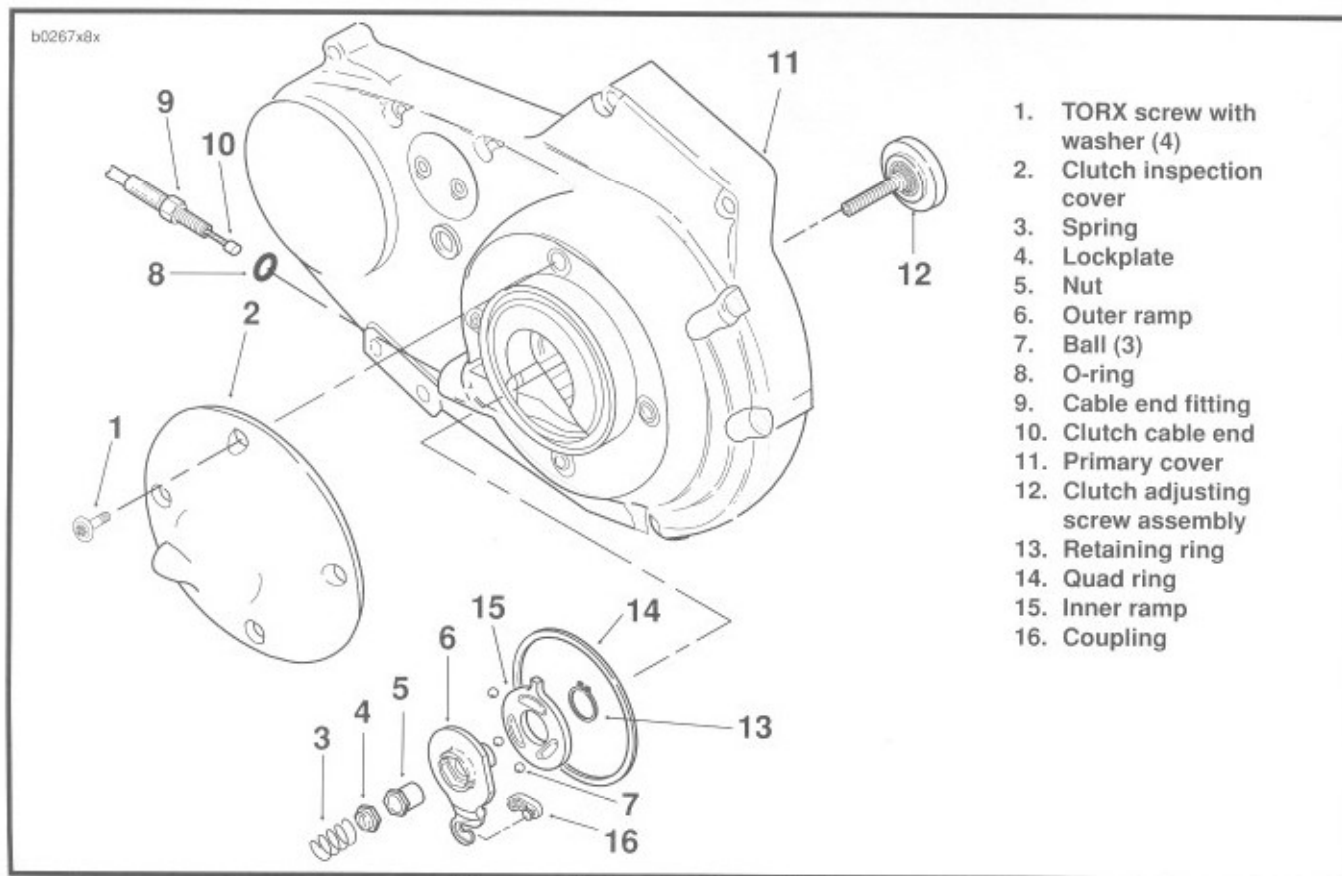

Figure 2-85. Clutch Release Mechanism
### Clutch Cable – Lower (Figure 2-85)
1. See Figure 2-85. Install O-ring (8) over cable end fitting (9) of clutch cable lower section. Turn fitting clockwise to install into primary cover (11). Tighten fitting to 3-5 ft-lbs (4-7 Nm) torque.
2. Fit coupling (16) over cable end with the rounded side inboard, the ramp connector button outboard. With retaining ring side of ramp assembly facing inward, place hook of ramp around coupling button and rotate assembly counter-clockwise until tang on inner ramp (15) fits in slot of primary cover (11).
3. Thread nut (5) on adjusting screw (12) until slot of screw is accessible with a screwdriver. Fit nut hex into recess of outer ramp (6) and turn adjusting screw counter-clockwise.